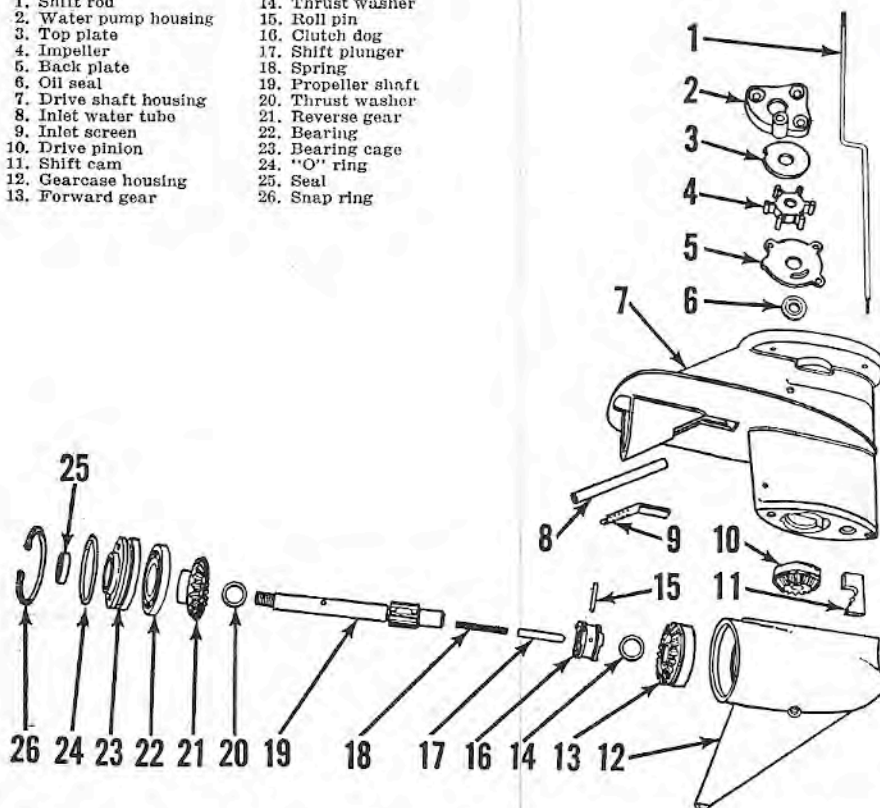

Fig. WB43—Exploded view of lower unit gearcase, drive shaft housing and associated parts.
R&R AND OVERHAUL. Refer to Fig. WB43. Loosen the locknut on the shift rod coupling, located behind swivel bracket, below the power head. Remove the shift rod coupling tumble to disconnect the shift rod; then unbolt and remove the driveshaft housing (upper gearcase) and gearcase from motor leg. Turn shift rod (1) counter-clockwise to clear the water pump housing; then disassemble and remove the water pump assembly.
Propeller shaft, gears, bearings and shift mechanism can be removed after housings are separated. An internal expanding puller and slide hammer may be required to remove the front gear (13—Fig. WB43). In some cases, gear may be removed by heating gearcase housing with a torch, then jarring open end on a block of wood to dislodge the gear and bearing assembly. When installing front gear and bearing assembly, assemble the bearing cage (23), without "O" ring (24) over rear of propeller shaft; install thrust washer (14) and gear assembly (13) on front of shaft; then use the propeller shaft as a piloted driver.